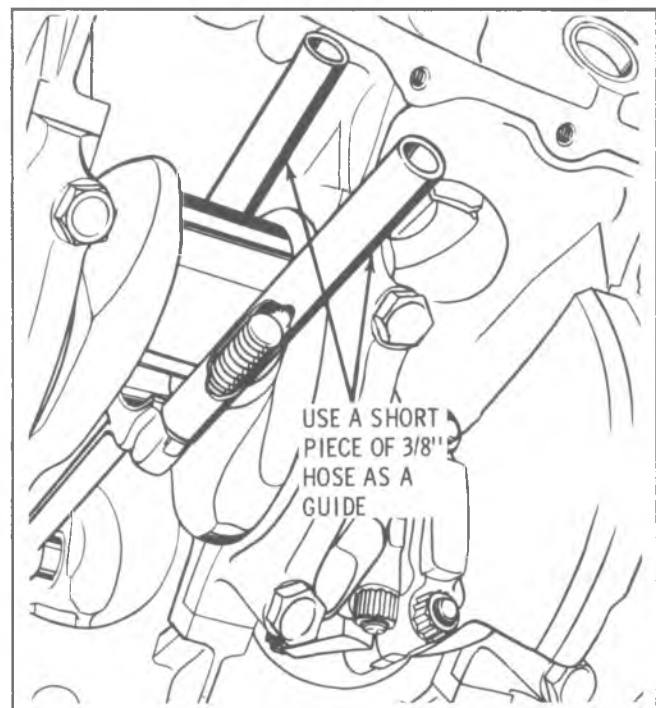

Fig. E-56—Connecting Rod Bolt Guide
5. Install guide hose over threads of rod bolts. This is to prevent damage to bearing journal and rod bolt threads. (Fig. E-56)